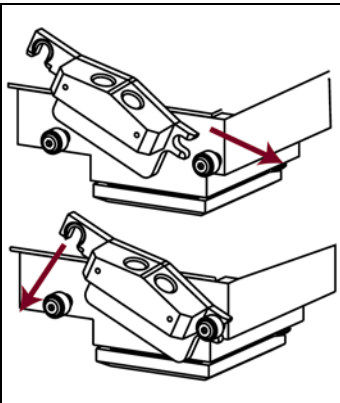

Figure 19
10. Return the injector tip holder to the optical head. Position the holder just above the front pins on the optical head. Push the holder toward the right to lock the holder securely to the right pin of the optical head. Then push down and lock the holder on the left pin. (See Figure 19.)